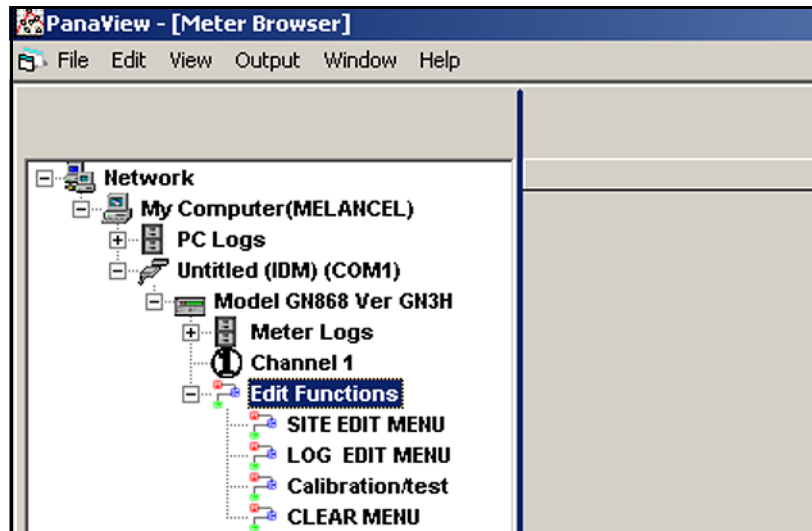

Figure 35: Meter Tree – Edit Functions Option
4. From the meter tree, expand the *Edit Functions* option. A screen similar to *Figure 35* below opens, with a list of available menus. The menus listed are those available on the meter.
Note: The options listed in the left pane correspond to the options available for the meter selected in *Figure 35* above.